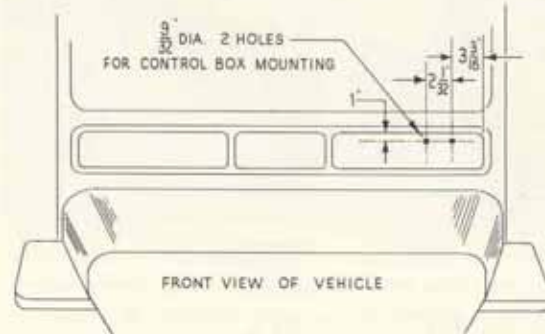
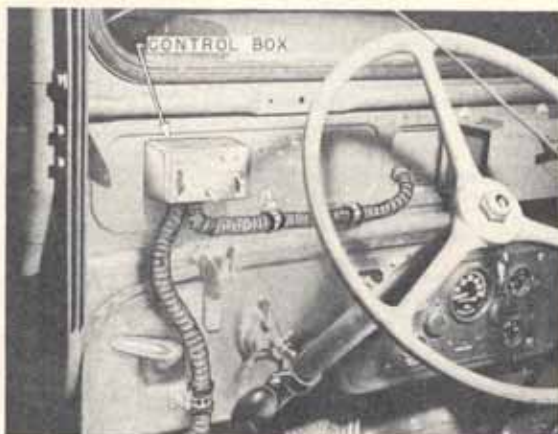

Figure 2
Figure 4
5. Using the dimensions shown in Figure 2, drill two $\frac{9}{32}$ -inch holes in the panel below the windshield next to the heater box section just installed.
4. Remove the cover from the heater control box by unscrewing the two center screws at the top edge of the panel. Install the cover above the instrument panel of the vehicle, as shown in Figure 4, using the two $\frac{1}{4}$ -20 x $\frac{3}{4}$ cap screws, lockwashers and nuts which are already in the box cover. Use the two holes previously drilled in the instrument panel (Figure 2) when mounting the cover.
6. Attach the wiring harness to the instrument panel in three places as shown in Figure 4, using three harness clamps and the #10-32 x 1 machine